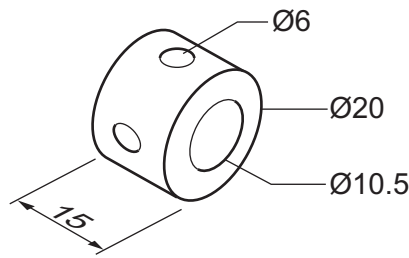

Fig. 13.2
- (c) Fig. 13.2 shows details of the central connector.